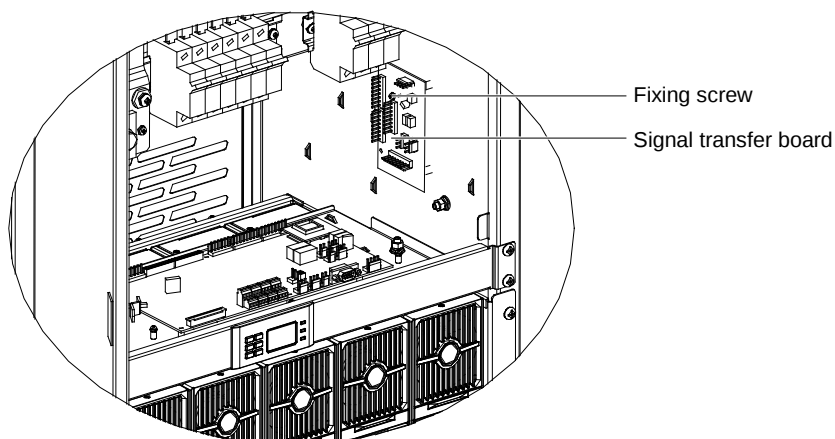

Figure 5-6 Removing the signal transfer board
3. Remove the fixing screws of the signal transfer board. Replace the signal transfer board, as shown in Figure 5-6.